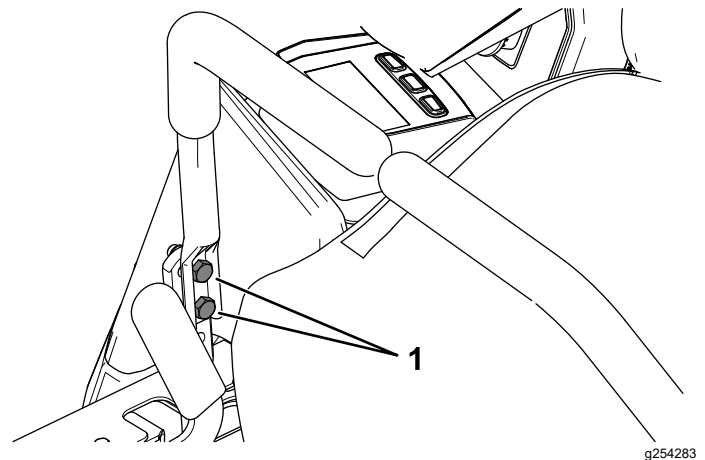

Figure 53
8. If alignment is needed, loosen the 2 motion-control lever mounting bolts on the misaligned side (Figure 53).
10. Tighten the 2 motion-control lever mounting bolts (Figure 53).